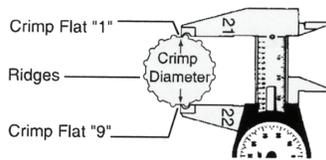

FIG. 1
1. Using Gates “21/22” dial calipers (Product No 739-1320, Part No 78217) measure halfway between ridges (Fig 1). to be sure crimp diameter is being properly measured, mark a crimp flat. Beginning with that flat, count 9 flats to get the diameter. Be sure caliper blades DO NOT touch ridges (See Photo 3.)